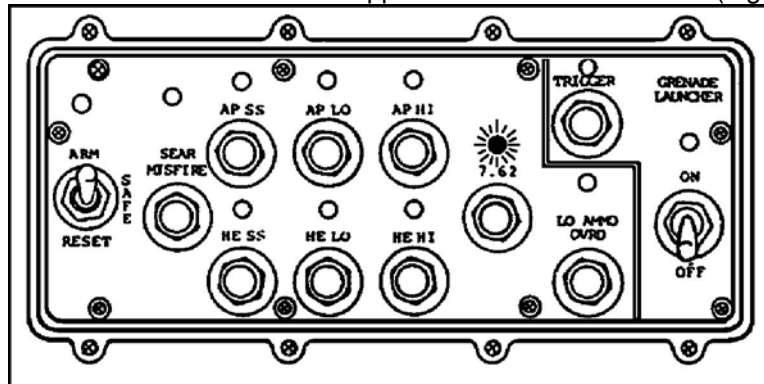

Figure 1. 7.62 button and indicator light.
- a. Press the 7.62 button. Check that 7.62 appears in the status indicator (Figure 1).